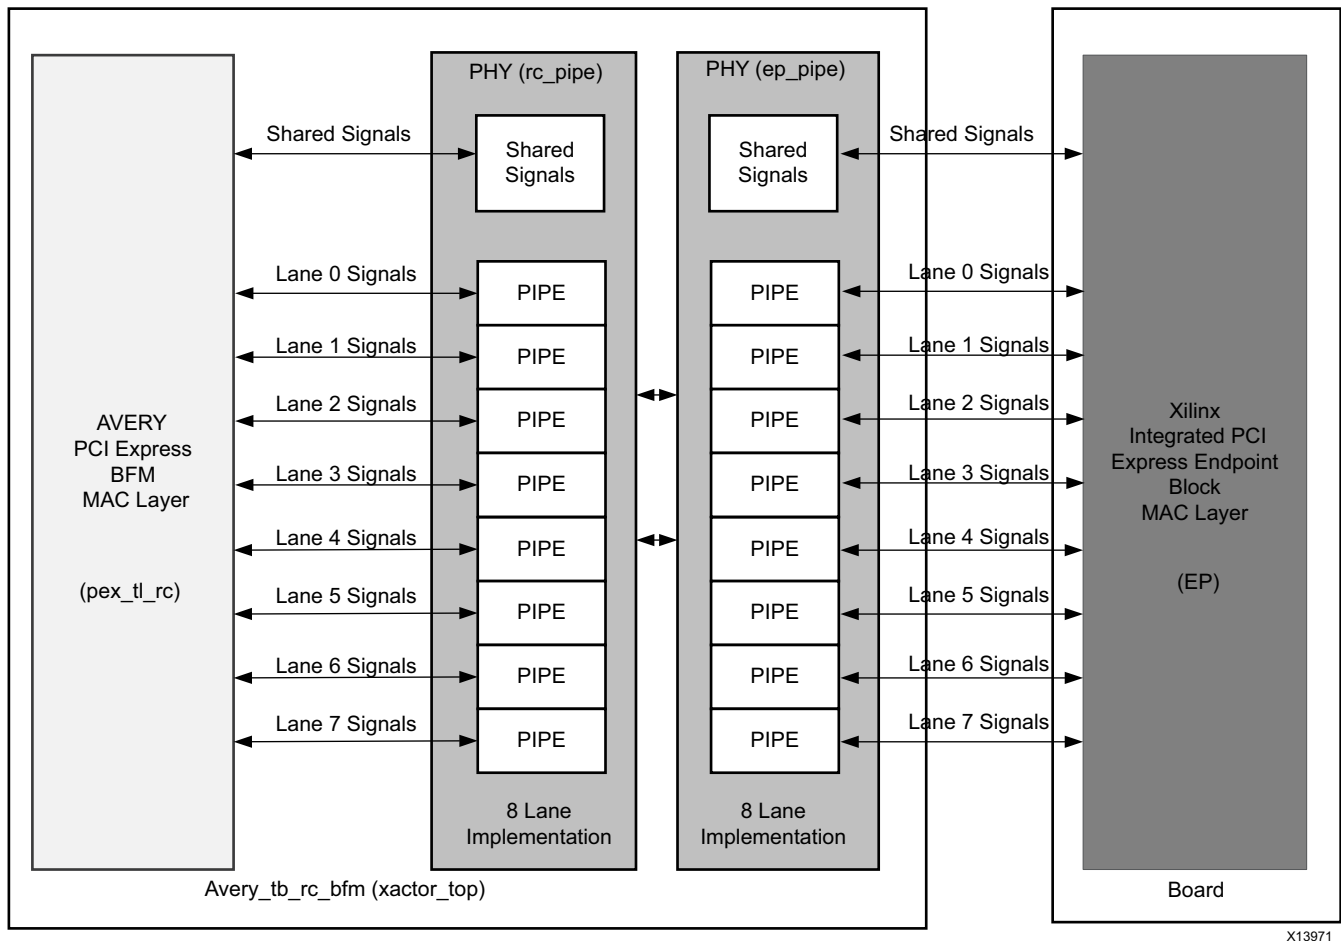

Figure 1: Block Diagram
The PCI Express PIPE 2.0 and PIPE 3.0 specifications [\[Ref 1\]](#) provide information about combining multiple PIPE interfaces for multi-lane designs. The PIPE mode simulation uses a model from the Avery Design Systems BFM as a Root Complex (RC) and the Xilinx integrated PCI Express Endpoint block (EP) for an 8-lane design (Figure 1). For more details about shared signals and per-lane signals, see the PCI Express PIPE 2.0 and PIPE 3.0 specification [\[Ref 1\]](#).